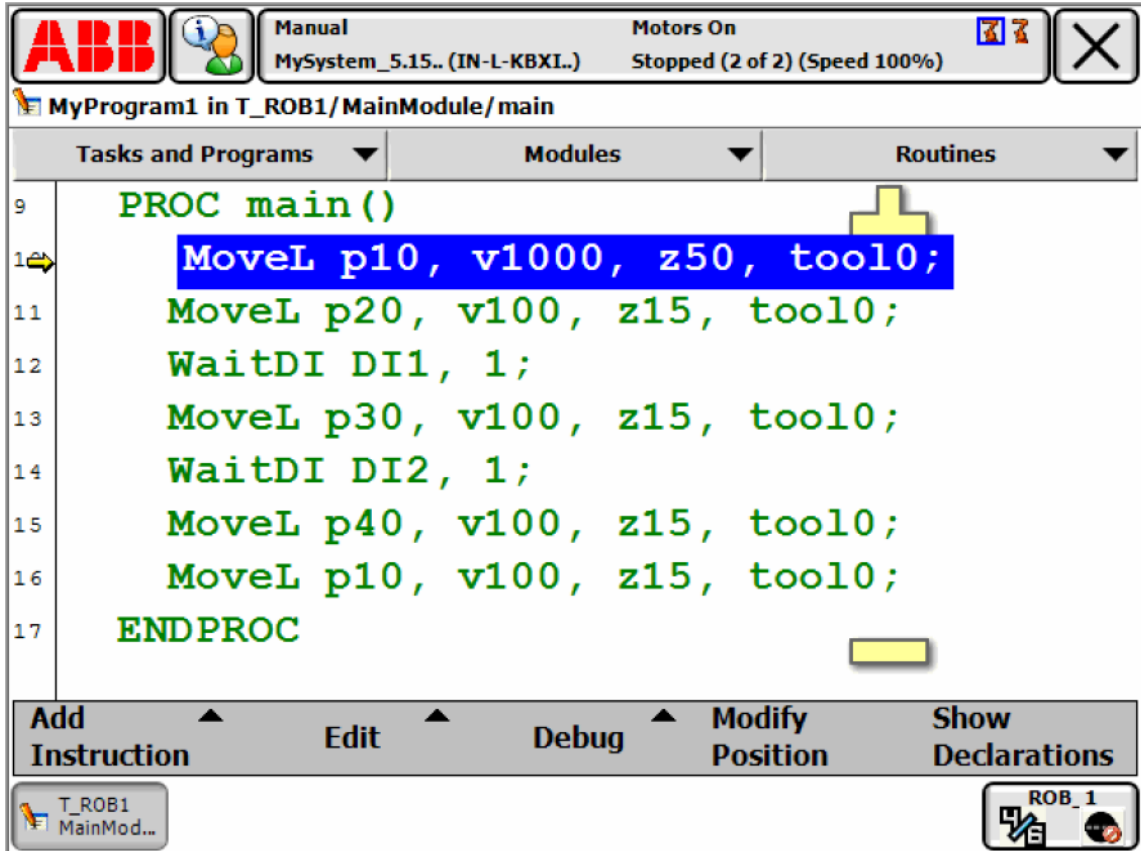

Figure 4: ABB FlexPendant Program Editor
- Select **Program Editor** from the menu of items. There may be a program currently loaded in memory, so you may see something like what is shown in Figure 4**Error! Reference source not found.:**
The easiest way to add a new pose is to manually jog the robot to the desired location and then record it. Make sure that you are in the Program Editor as shown in Figure 4.